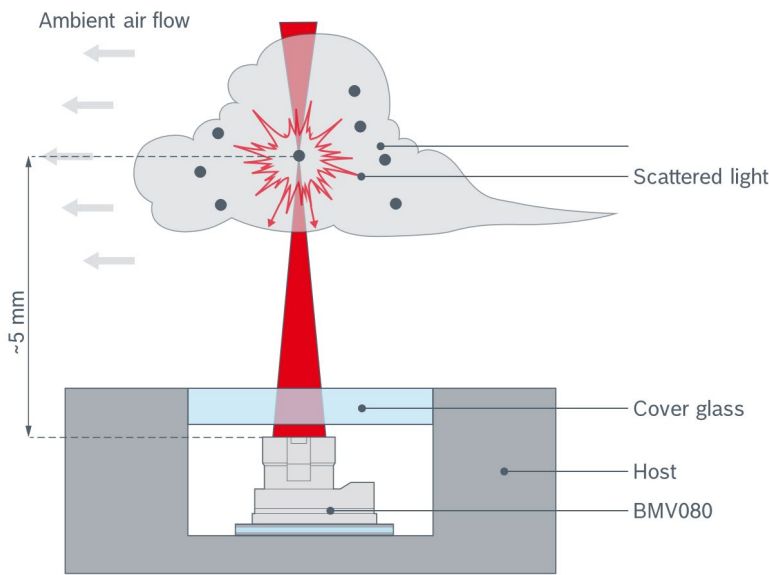

Figure 28: BMV080 measurement distance
- The BMV080 measures near the surface (see Figure 28) of the lens